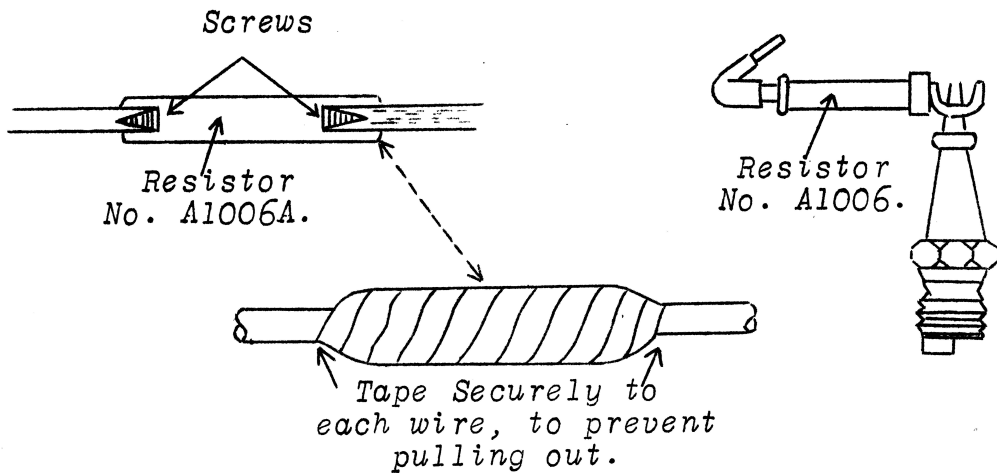

FIG. 1.
1. Spark Plug Resistors: (See Fig. 1.)
To provide for these exceptional cases, we have made available a filter arrangement, easy to install, and very effective in filtering out this type of interference. See Fig. 1 for method of installation.